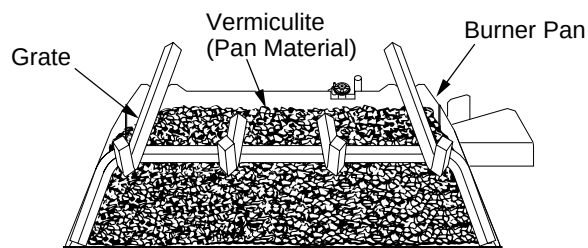

Figure 22 - Fill Entire Burner Pan with Vermiculite (P325/VP325 Models Shown)
1. Open the bag(s) of vermiculite and fill the entire burner pan until the burner tube is completely covered (see Figure 22).